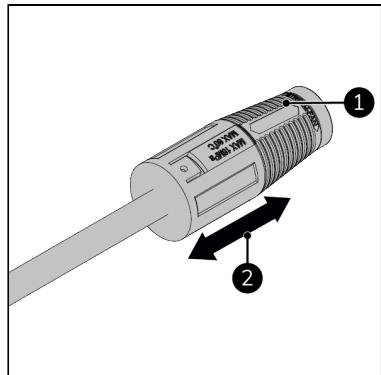

Figure 37.
1. To change the pressure of the adjustable nozzle (Figure 37, pos. 1):
- Slide forward for a low pressure (Figure 37, pos. 2);
- Slide backwards for a high pressure (Figure 37, pos. 3).